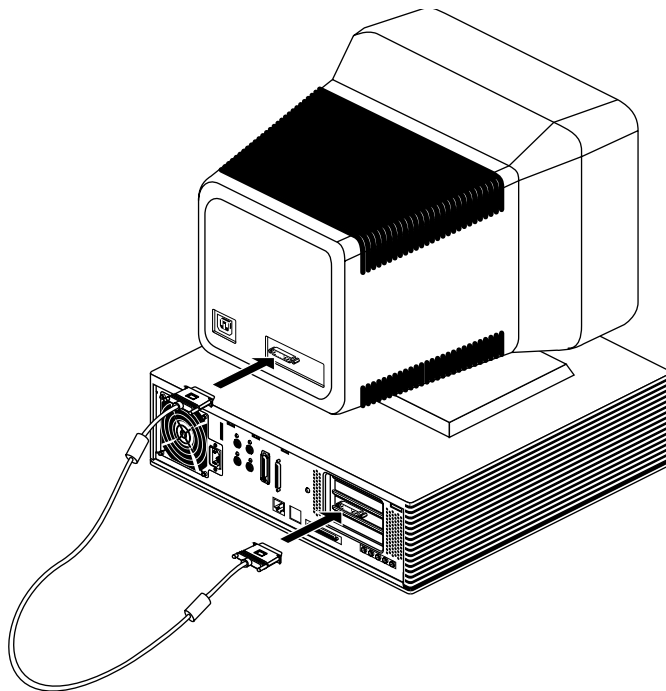

Figure 2-10 Connecting the Monitor Cable to the Indigo² IMPACT Workstation
- Connect one end of the cable to the connector on the back of the monitor, as shown in Figure 2-10. Screw in the thumbscrews on both sides of the connector.
- Connect the other end of the cable to the graphics board connector on the back of the Indigo² IMPACT workstation, as shown in Figure 2-10. Screw in the thumbscrews on both sides of the connector.